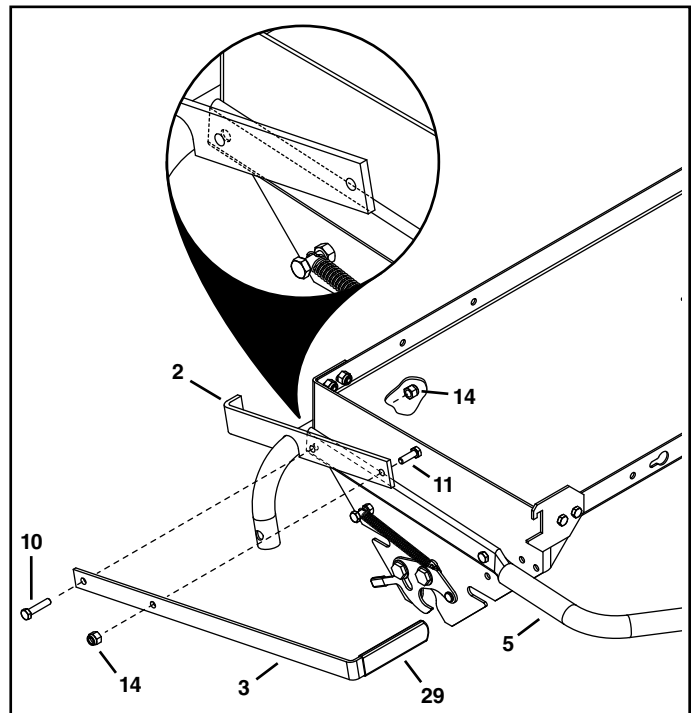

FIGURE 4
8. Assemble the grip (29) onto the lift handle (3).
9. Attach the lift tube assembly (2), the lift handle (3), and the hitch tube (5) to the rear hole on the right side of the tray using a 5/16 x 1-1/2" hex bolt (10) and 5/16" nylock nut (14). **Tighten** the nut then loosen 1/2 turn. See figure 4.
10. Secure the top hole of the lift handle to the top hole of the lift tube assembly with a 5/16 x 1" hex bolt (11) and 5/16" nylock nut (14). **Tighten.** See figure 4.